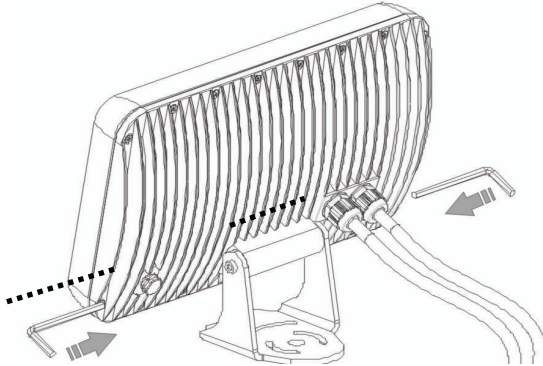

Figure 7: Tripix Wash tilt lock bolts
1. See Figure 7. Use two 6 mm Allen keys to loosen the tilt lock bolts.